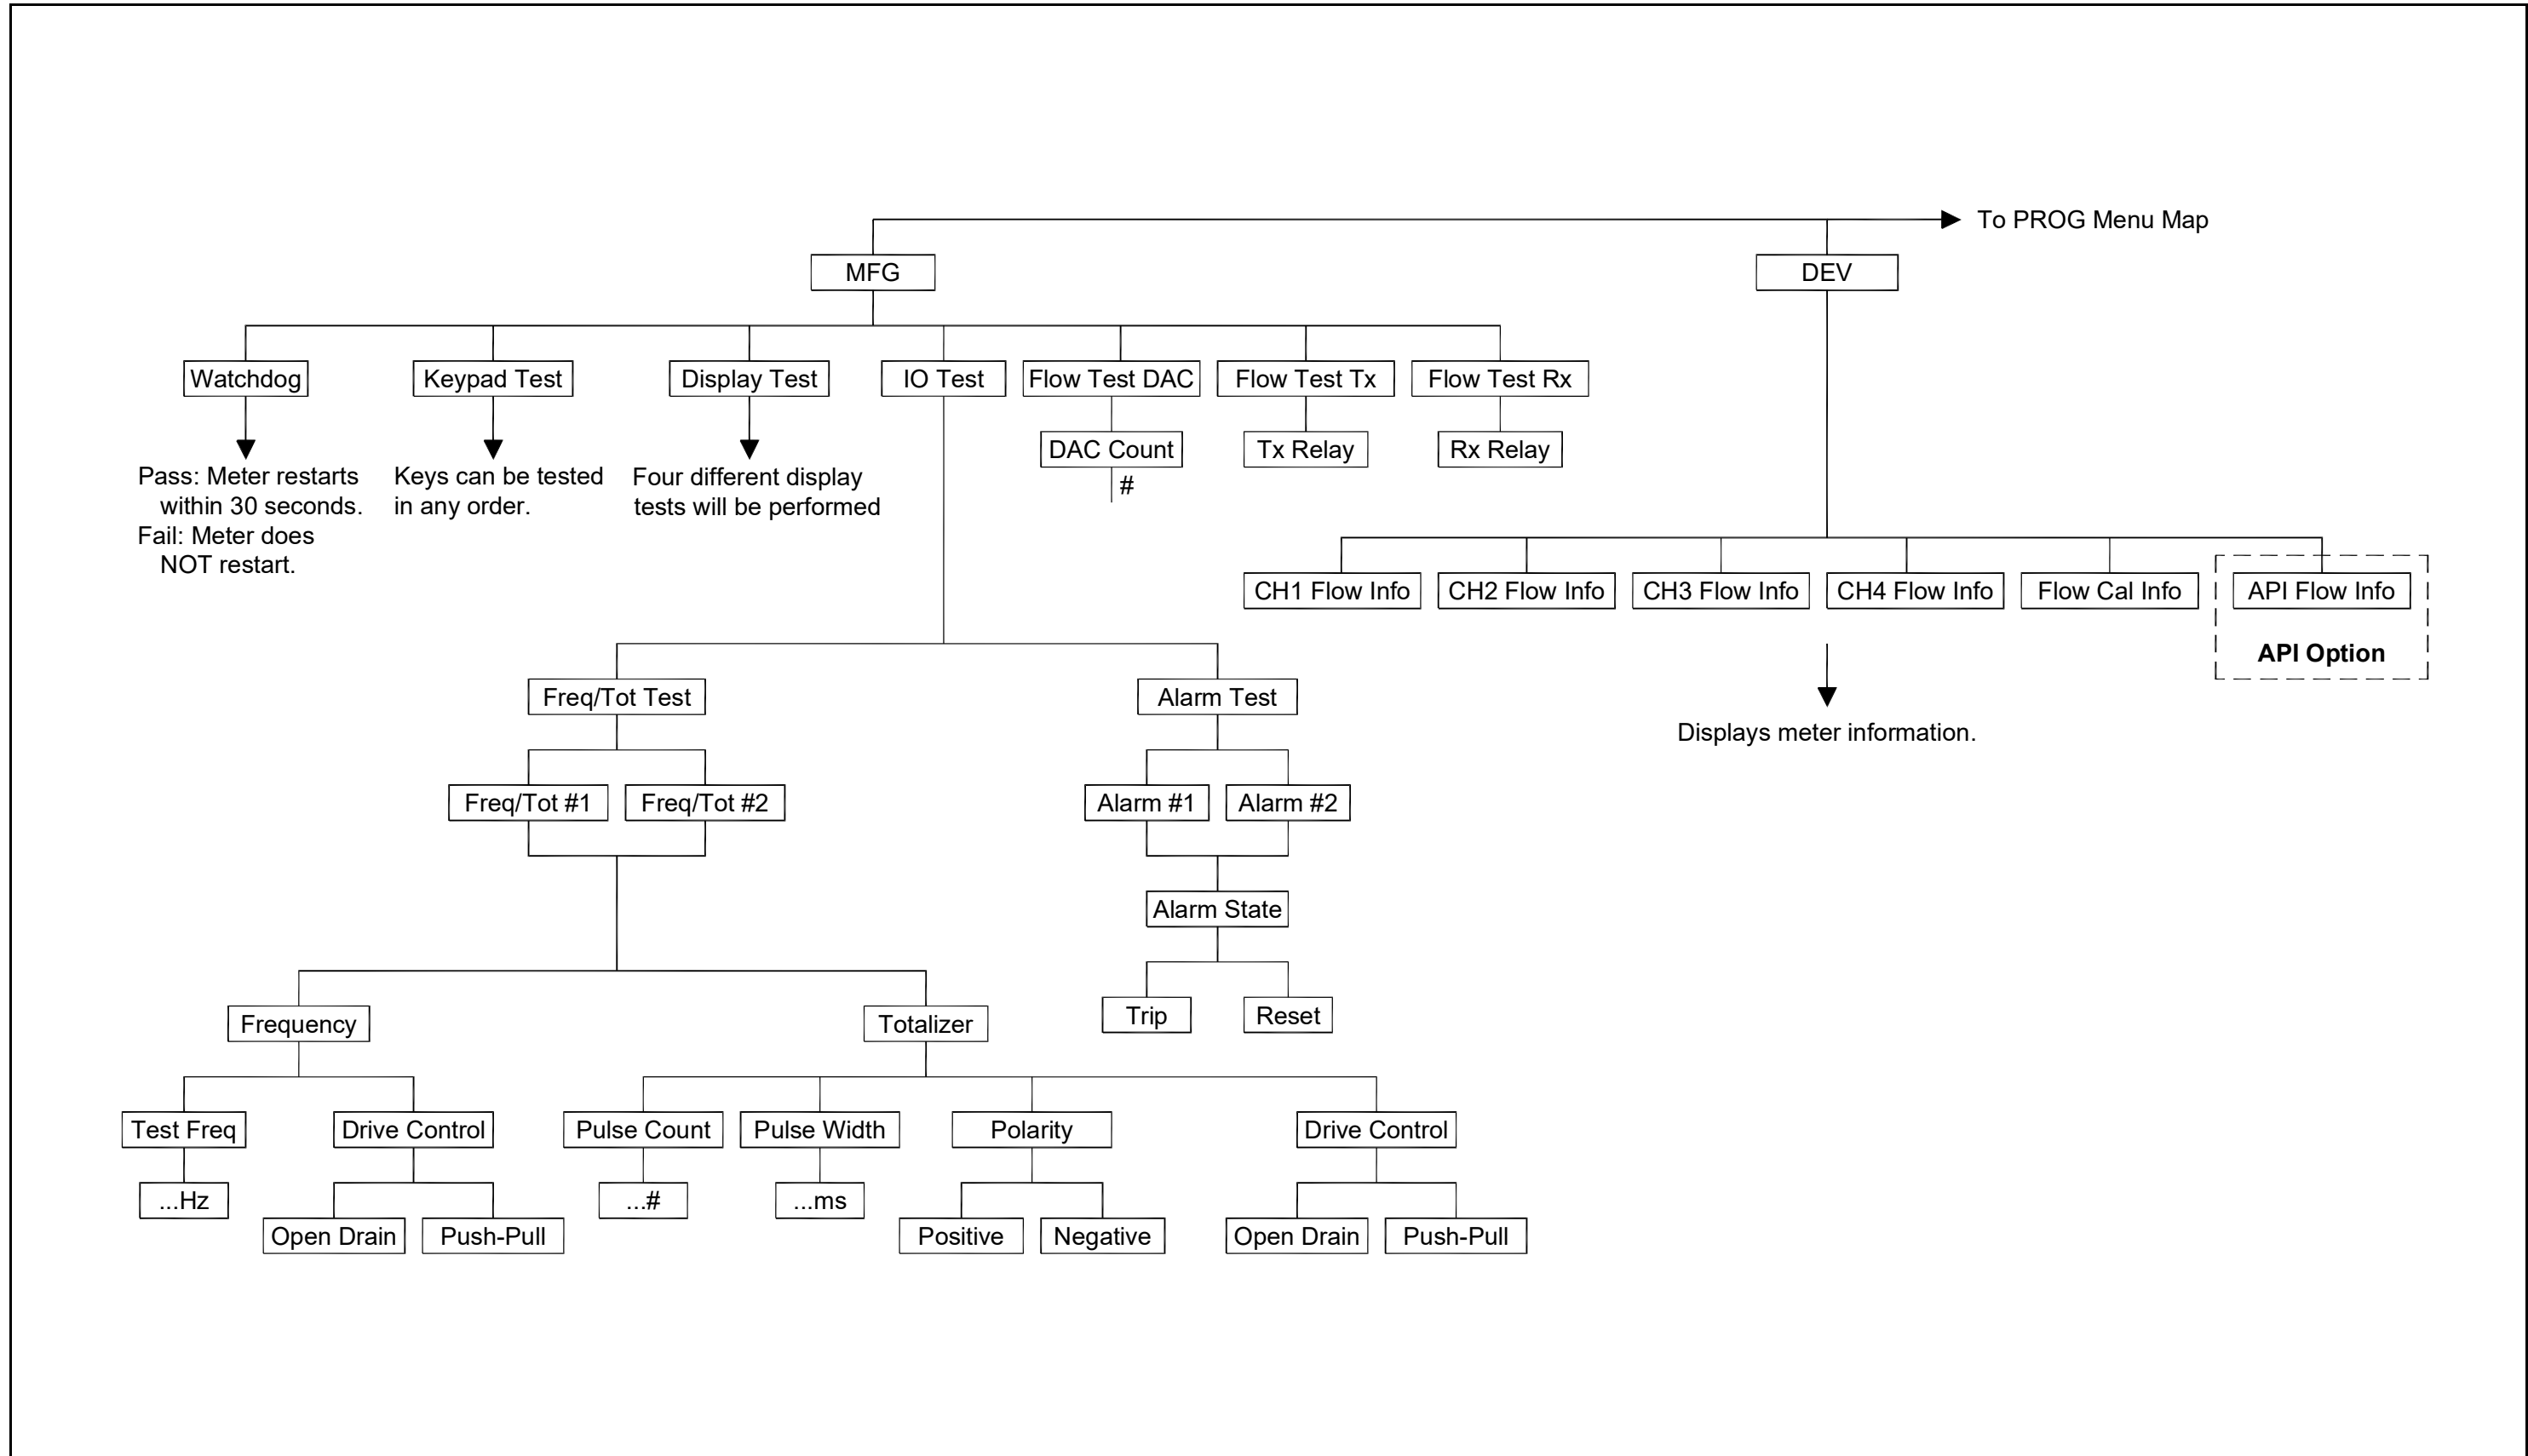

Figure 49: MFG and DEV Menu Map
- Figure 49: MFG and DEV Menu Map